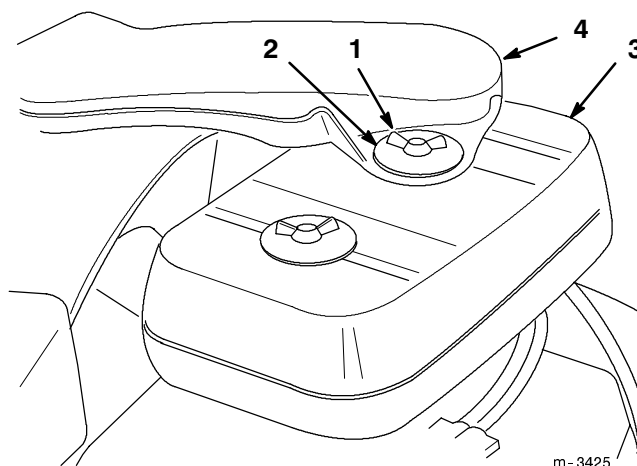

Figure 24
3. Clean around the air cleaner to prevent dirt from getting into the engine and causing damage (Fig. 24).
4. Remove the wing bolts, washers, air intake duct, and air cleaner cover (Fig. 24).